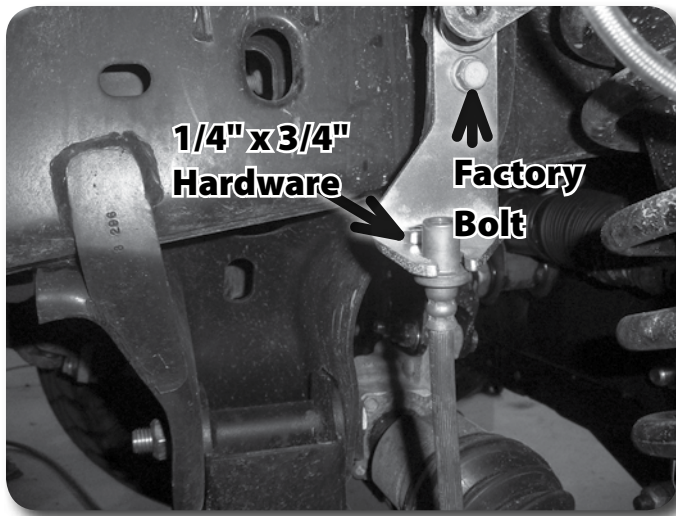

Figure 3
10. Carefully reform the hardline to gain additional length. Attach to the relocation bracket with 1/4" hardware **Figure 3**.